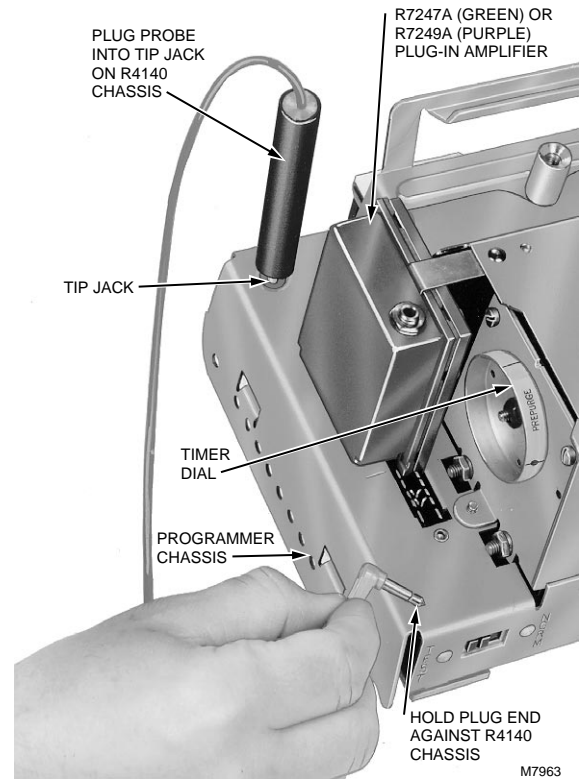

Fig. 13. Using flame simulator.
- (1) Complete step 7.b. above.
- (2) Close the master switch to start the programmer. Wait until the timer stops.
- (3) Plug the probe of a 123514A Flame Simulator into the tip jack on the front of the programmer chassis (Fig. 13).